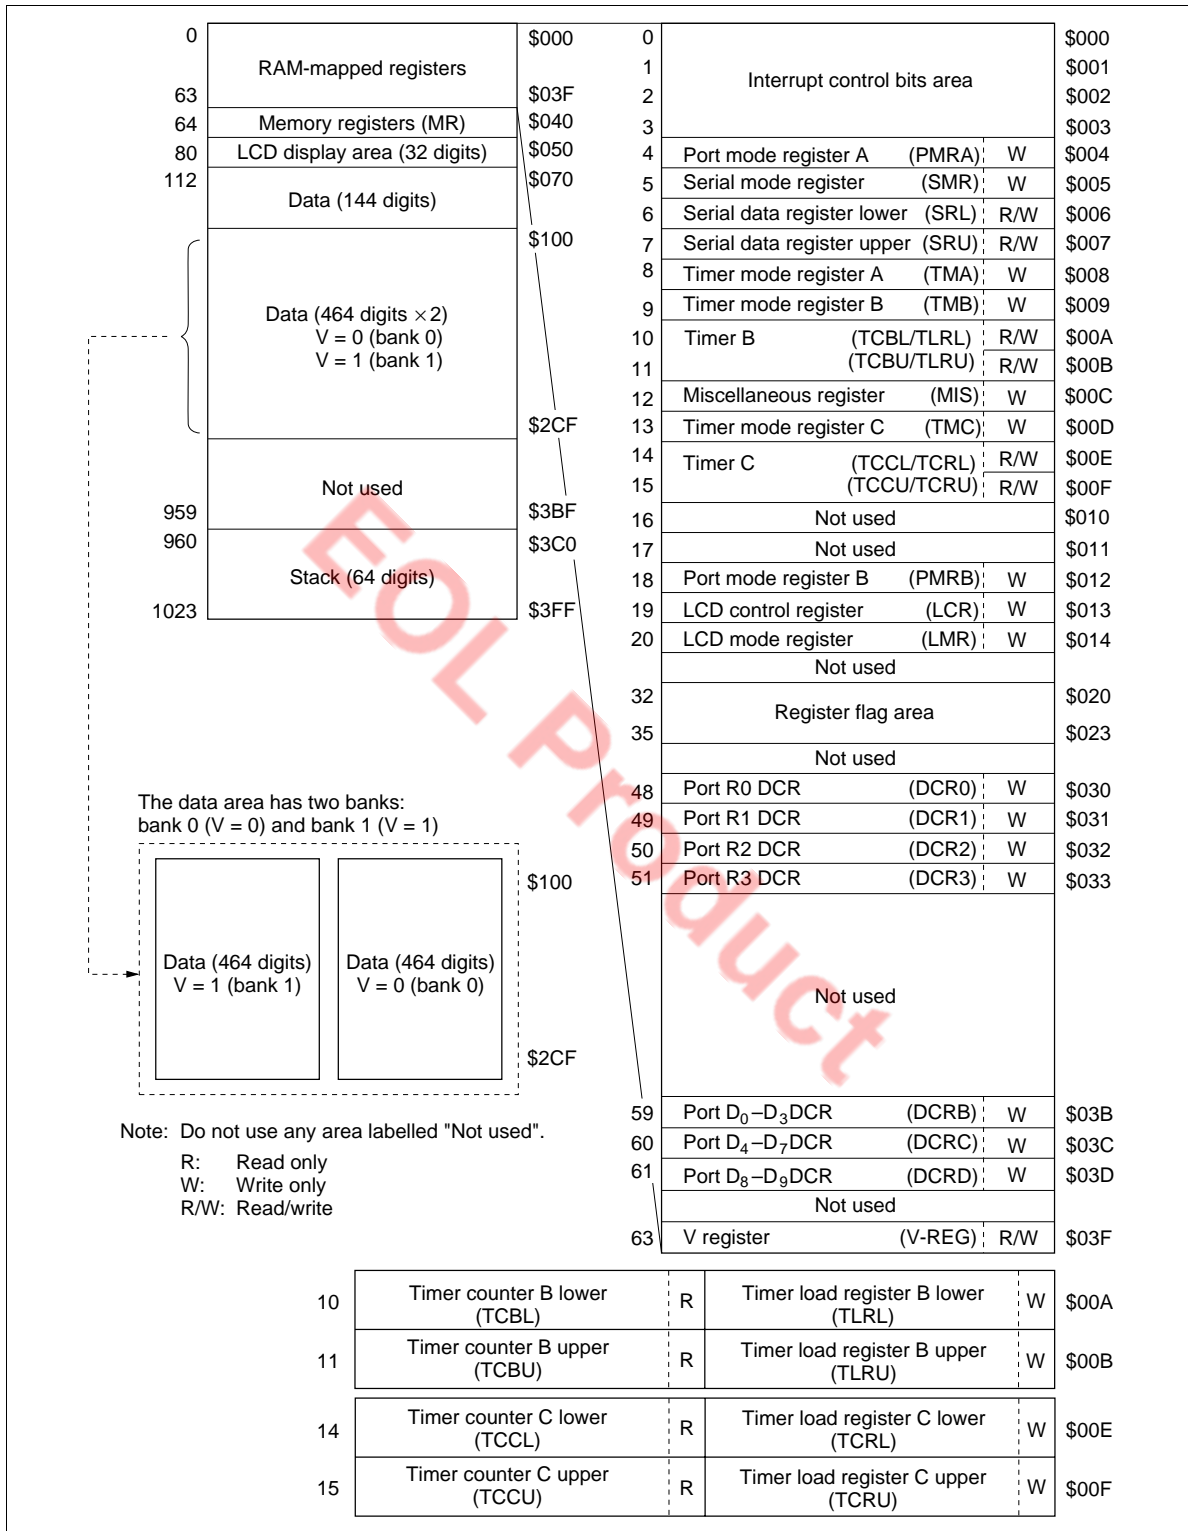

Figure 2 RAM Memory Map (1,184-digit x 4-bit)
The MCU also contains a 1,184-digit  $\times$  4-bit RAM as the data and stack area. In addition to these areas, interrupt control bits and special function registers are mapped on the RAM memory space. The RAM memory map (figure 2) is described in the following paragraphs.
**Special Function Registers Area (\$004 to \$01F, \$024 to \$03F):** The special function registers are the mode or data registers for the serial interface, timer/counters, LCD, and the data control registers for the I/O ports. These registers are classified into three types: write-only, read-only, and read/write as shown in figure 2.